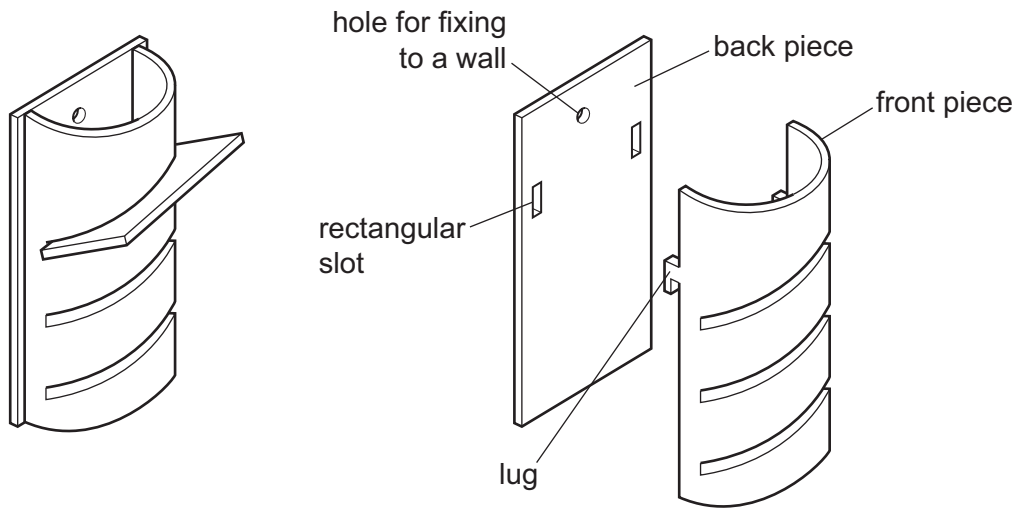

Fig. 10
- 12 Fig. 10 shows views of a display unit made from two separate pieces of acrylic. The two pieces clip together using lugs.